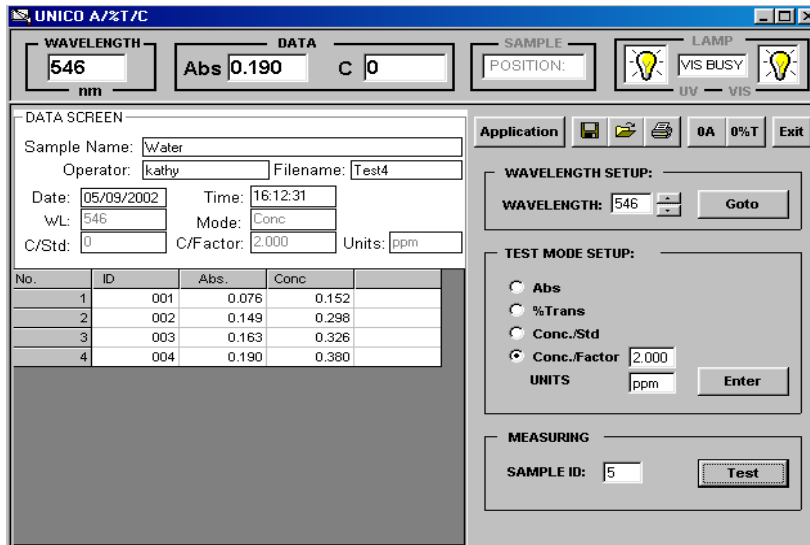

Figure-23 Test Results of **Concentration/Factor Mode**
Step 6B: For each sample, be sure to place the sample in Sample Compartment and close the lid. Click the **TEST** Button to record results. The **Absorbance** and **Concentration** of the samples will be displayed in the **Data Table** (Figure-23).